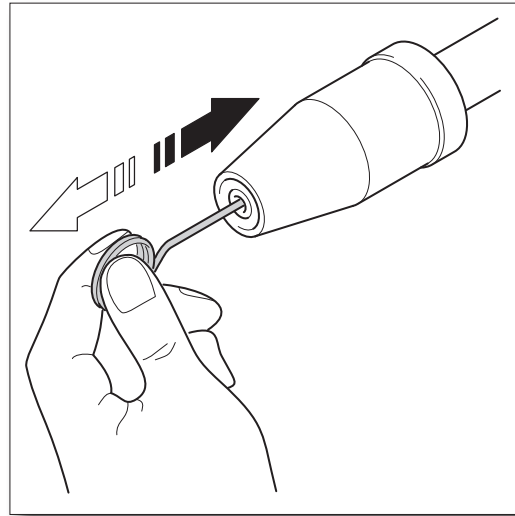

Fig. 24
- Using the nozzle tip cleaner provided (or an unfolded paper clip), insert the wire into the nozzle hole and move back and forth until debris is dislodged (**Fig. 24**). Back flush water through the nozzles using garden hose and highest pressure available (either standard water nozzle or use your thumb over the nozzle to create water pressure for back flush).